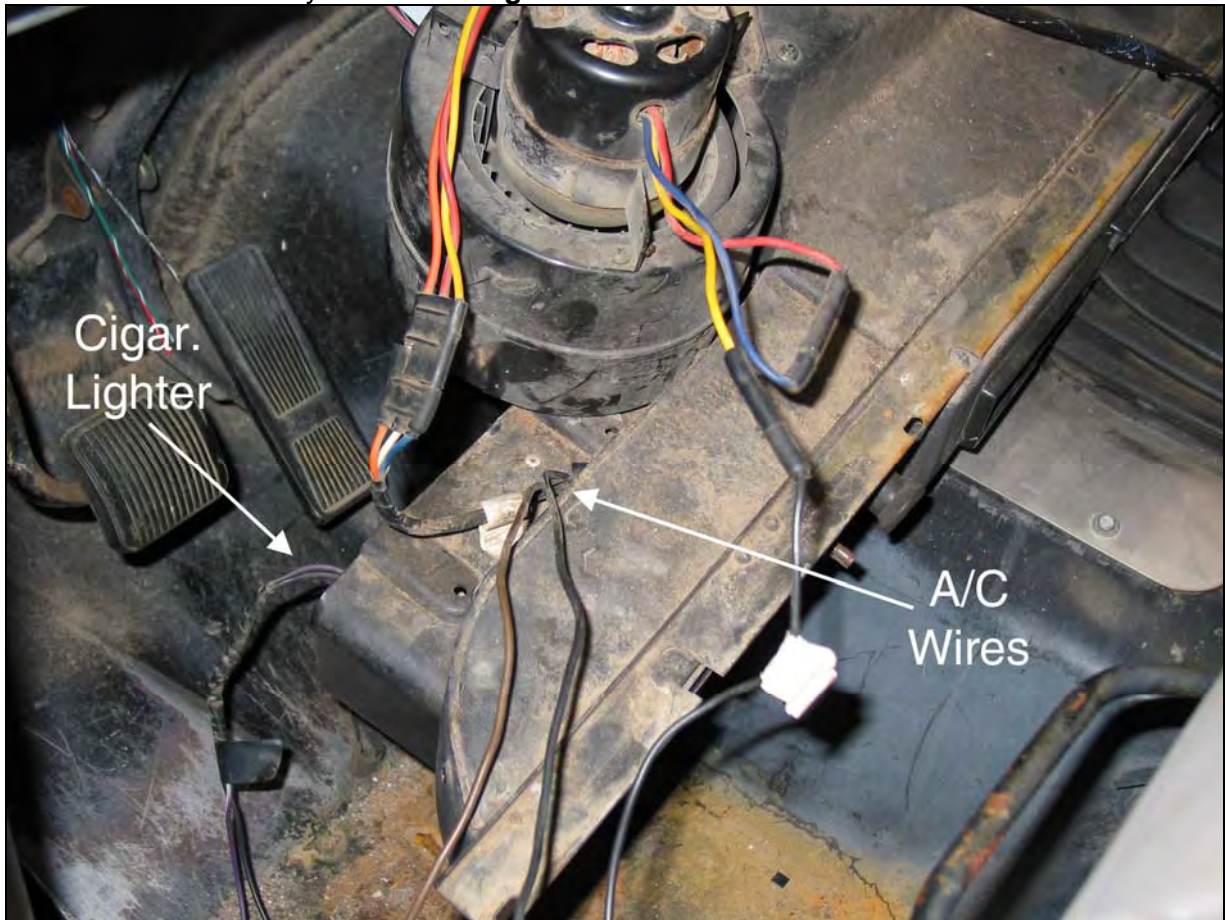

Figure 7.7.3 A/C Wires and Cigarette Lighter Wires
- 7.9.5** Wires are provided in the Painless harness to wire the factory CIGARETTE LIGHTER/POWER PORT. Purple/White #903 CIGAR/ACCESSORY (B+) and Black #969 CIGAR/ACCESSORY GROUND will provide a constant power source. These wires can be found in the same breakout as the DIMMER SWITCH that goes to the steering column. Connections can be made to the factory CIGAR LIGHTER/ACCESSORY PORT pigtail using terminals supplied in the parts kit. Refer to **Figure 7.7.3** for the location of the factory pigtail coming from the A/C housing.